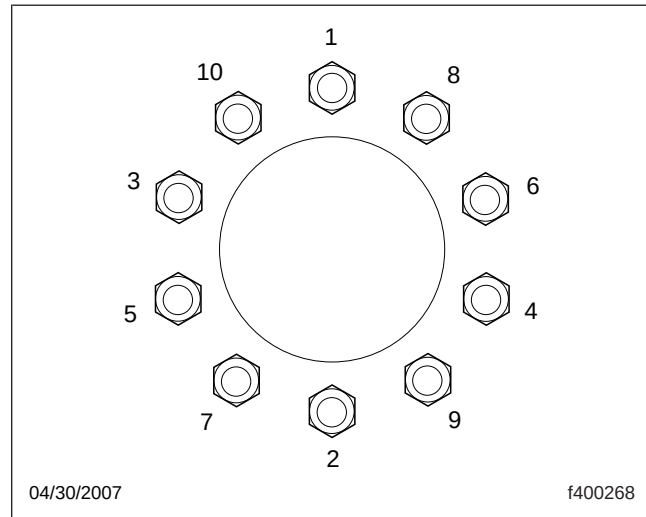
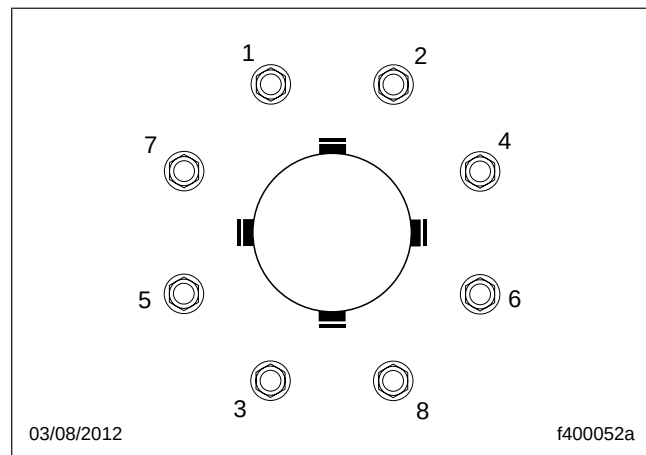

Fig. 11.4, Tightening Pattern, 10-Stud Disc Wheel
Fig. 11.5, Tightening Pattern, 8-Stud Disc Wheel
- 3.3 Make sure all wheel nuts are tightened. If tightening is necessary, use the tightening pattern in Fig. 11.4 or Fig. 11.5 to initially tighten the flange nuts 50 to 100 lbf·ft (68 to 136 N·m). Then tighten the flange nuts 450 to 500 lbf·ft (610 to 678 N·m).